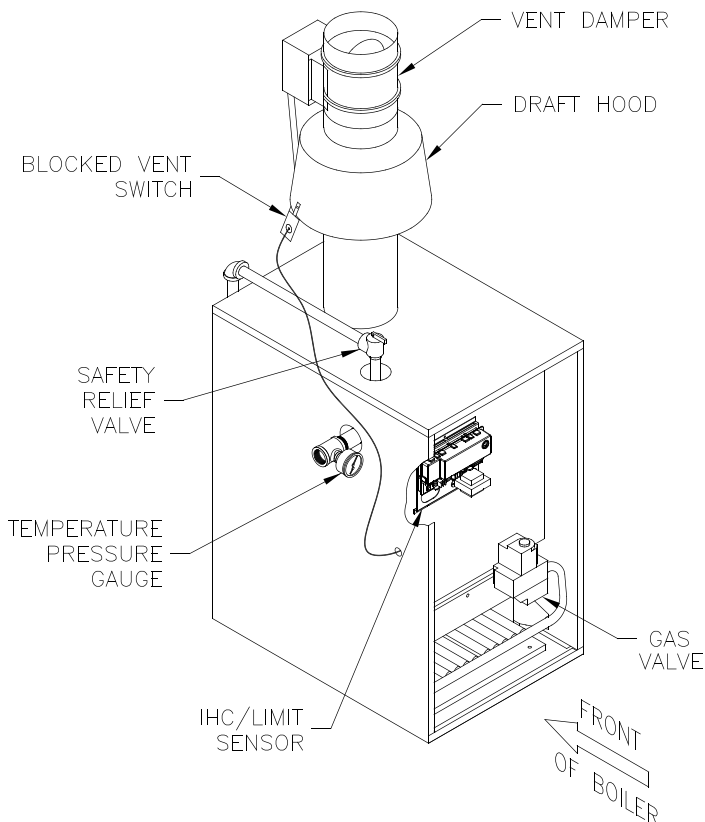

Figure 1: Control Locations
1. **Limit** See Figure 1. A device which automatically interrupts boiler operation when the water temperature exceeds the set point. Maximum allowable boiler water temperature is 220°F. Switch differential is 15°F.
2. **Blocked Vent Switch** See Figure 1. A device which automatically interrupts boiler operation when excessive vent system blockage occurs. If the control was activated to interrupt boiler operation,
4. **Electronic Ignition System** - see Figure 1. The Electronic Ignition (EI) System consists of: